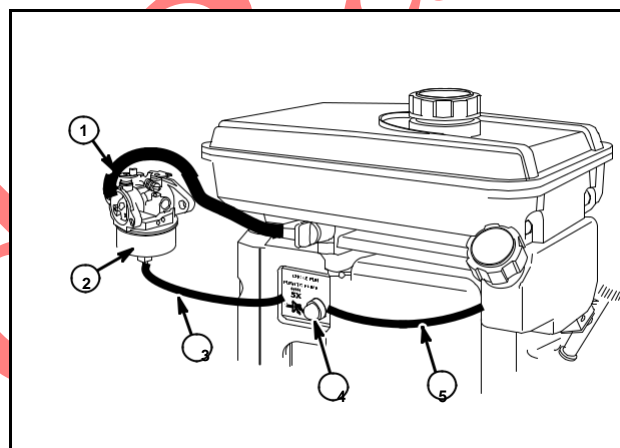

Fig. 160
Fig. 160 – Model Series 9K4000, 135400, 13K400 and 19K400: the petrol is pumped by the primer bulb (4) through the petrol hose from fuel tank (5) and petrol hose to carburetor (3) into the carburetor bowl (2). kerosene hose shut-off to carburetor (1)